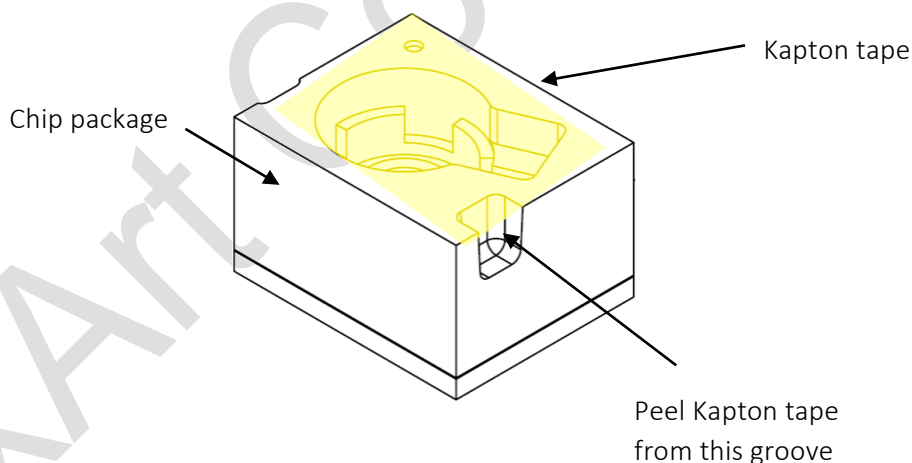

Figure 11. Remove Kapton Tape with Tweezers
2. Remove the protective Kapton tape using tweezers under a magnifier with light. Hold the PCB assembly (groove face towards operator) and peel off the Kapton tape using round tip tweezers at the groove on the chip package as shown in Figure 11.